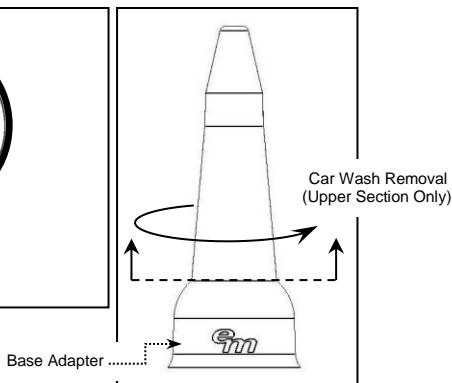

Fig. 4
- C. **CAR WASH REMOVAL (Fig. 4):** Using one hand, hold the antenna at the base adapter with a firm grip. Using the opposite hand, detach the upper radiator section only by unthreading with a Counter Clockwise (CCW) rotation from the base adapter. **Note:** Leave the NMO Base Adapter attached to the NMO mount to protect the mount from water and debris.